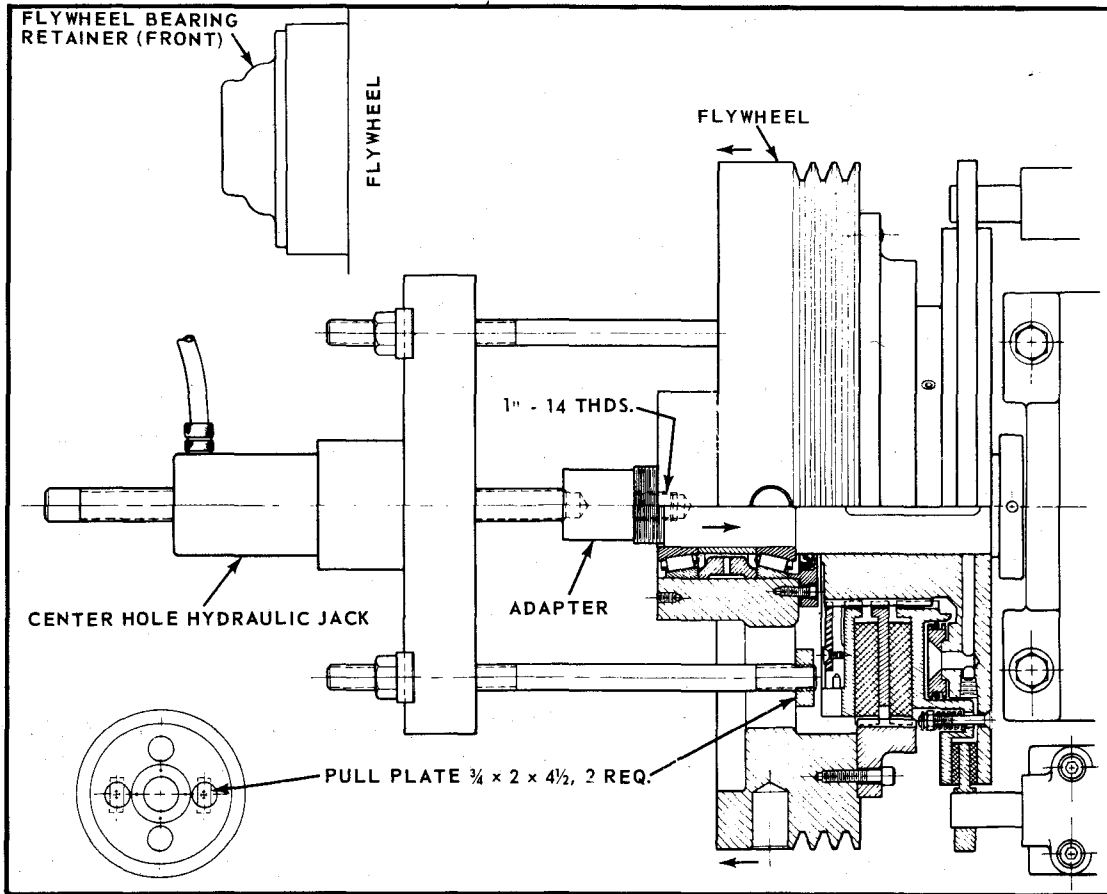

Figure 16
- Step 3. Remove flywheel (*Suggested method in Figure 16*)
- Step 12. When rear bearing is against shoulder of shaft as shown in Figure 16, remove jack and insert rollers and inner race.